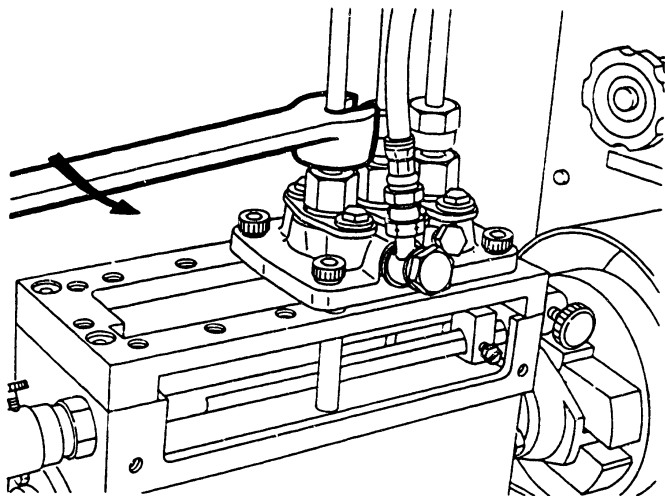

Fig. 67 Loosening the injection pipe
- 1 Loosen the injection pipe of the cylinder being adjusted. (Figure 67)